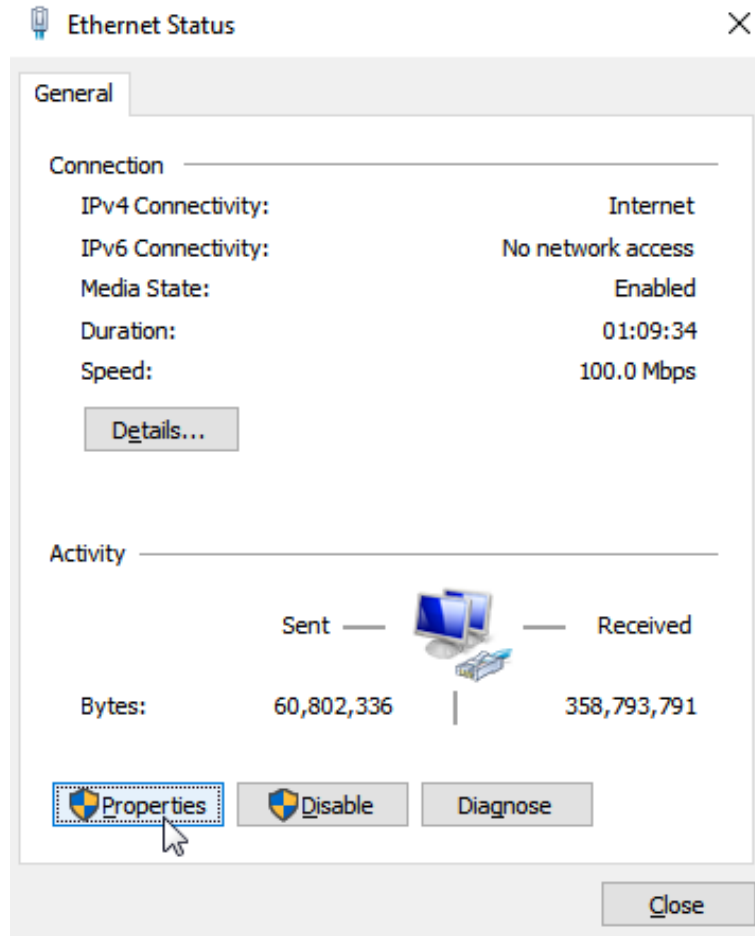

Figure A.5: Changin ethernet properties
**Step 5** Click on the "Properties" button (Figure A.5).